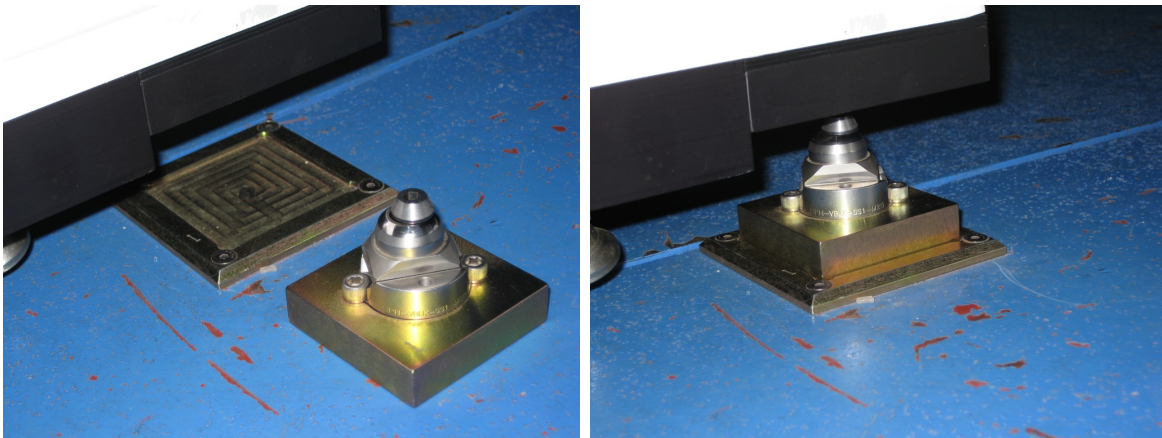

Figure 3: The spherolinder base plate and assembly are shown in the left photo. The assembly has been placed in the base plate in the right photo.
29. Locate the loose spherolinder blocks (Figure 3) in the wooden drawer. Place these in their respective baseplates attached to the nasmyth platform. Each baseplate and each spherolinder assembly is stamped with a number at one corner. The numbers should be matched such that each stamped corner is appropriately aligned.